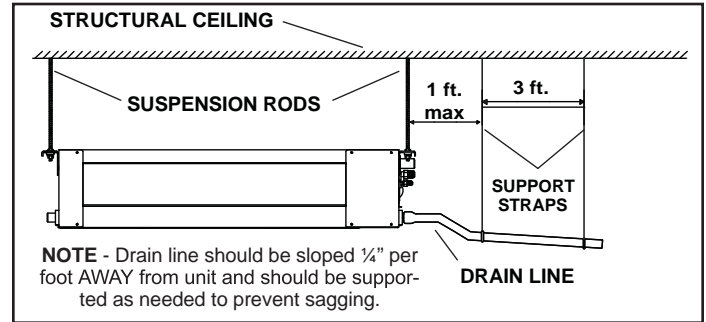

Figure 10. Sloped Condensate Drain -- Single Unit
3. See figure 10 for applications including a single unit and a single drain. In this case, ensure that the drain line is properly sloped (no less than 1/4 inch per foot) and condensate lines are routed to ensure moisture is drained away from the indoor unit.